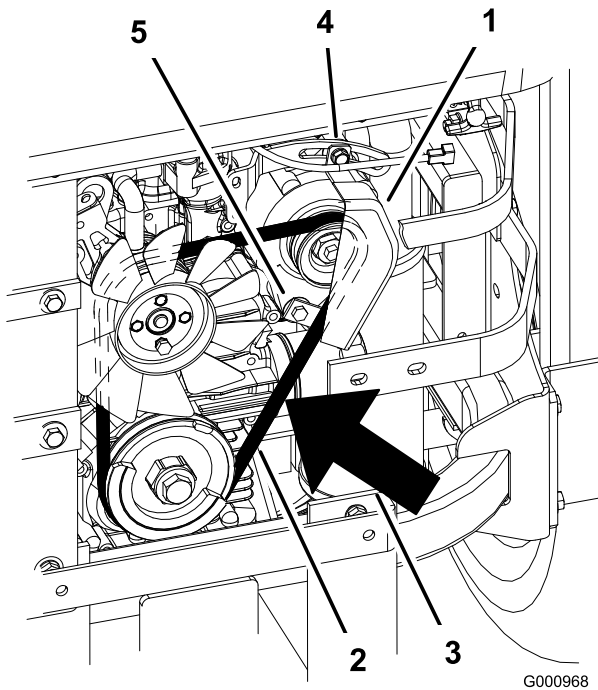

Figure 72
7. Loosen the bottom bolt and remove the upper bolt holding the alternator and cover (Figure 72).
9. Install a new belt around the pulleys and the alternator (Figure 72).
14. Tighten the bottom bolt and install the upper bolt holding the alternator and cover (Figure 72).
2. Adjust the alternator to the outside until there is 1/4 to 11/32 inch (7 to 9 mm) deflection in the belt between the engine and the alternator pulleys with 22.1 lbs of force (10 kgf) (Figure 72).
5. If the deflection is correct, tighten the bottom and upper bolt (Figure 72).